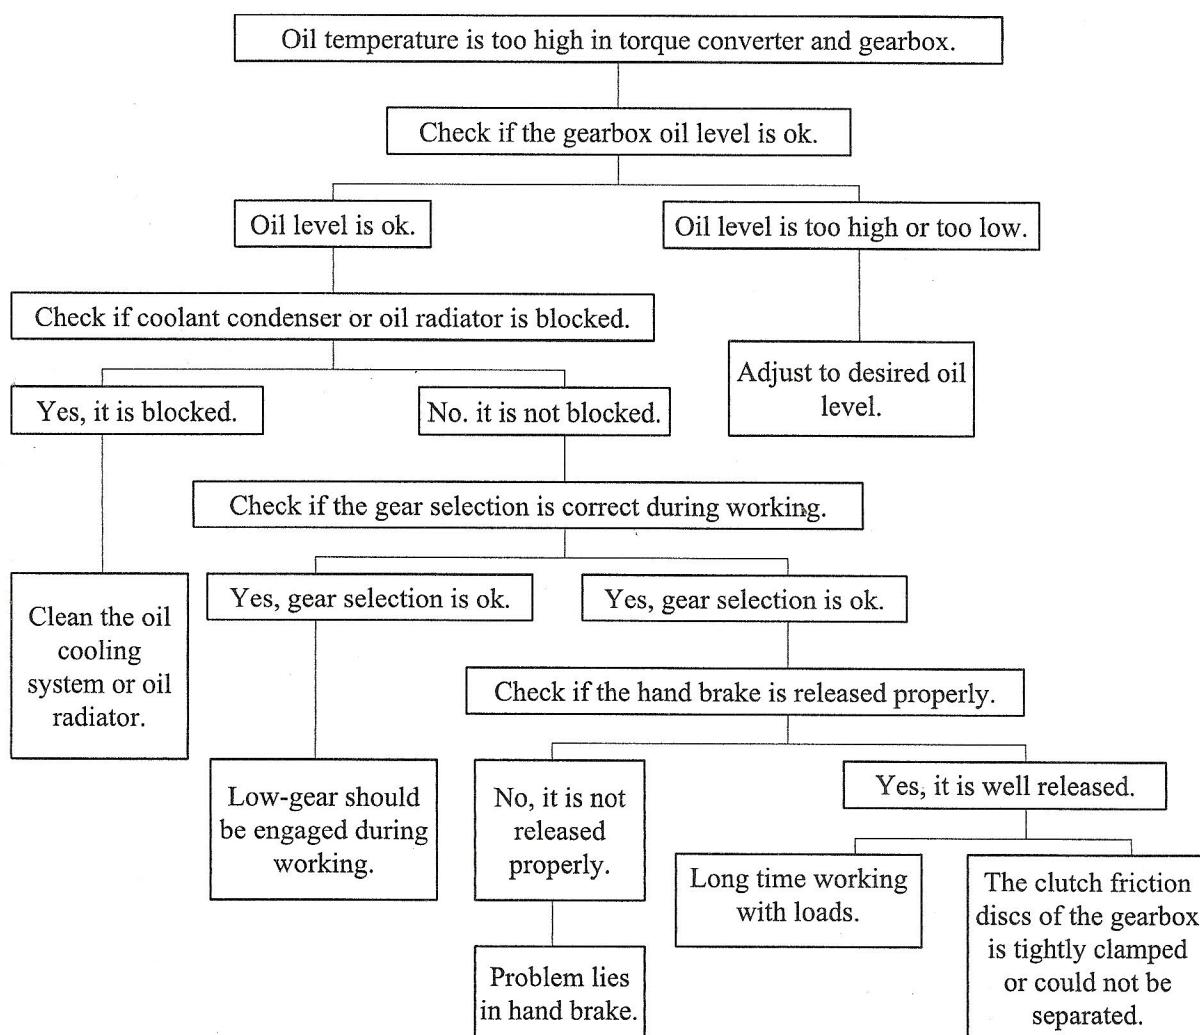

Fig. 06-08 Diagnosis process chart for the problem that the oil temperature of the torque converter and the gearbox is too high
- Oil temperature of the torque converter and the gearbox is too high (See Fig. 06-08).